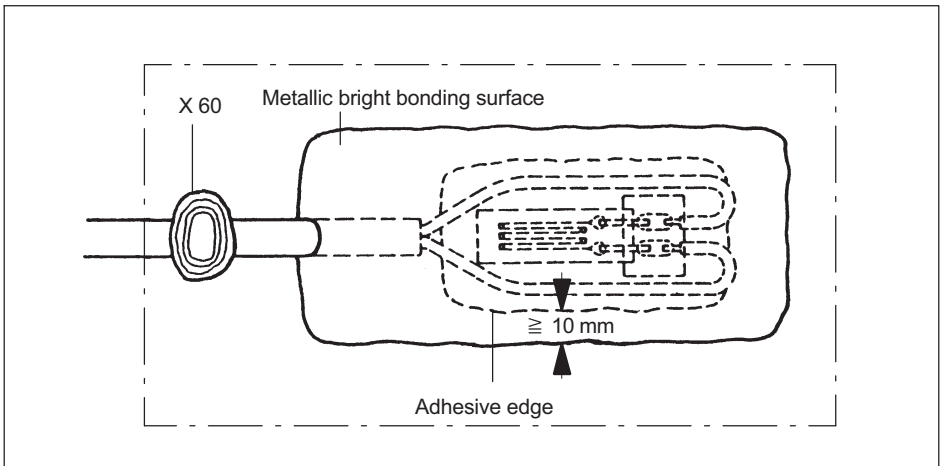

Fig. 4.1 SG measuring point covered with NG120
- ▶ The connection cable and the cable sheath in the area of the measuring point must also be degreased. Fluoropolymer connecting cables must be etched and degreased so that the covering compound bonds better. Prepare the cabling of the measuring point as shown in *Fig. 4.1 on Page 4*.